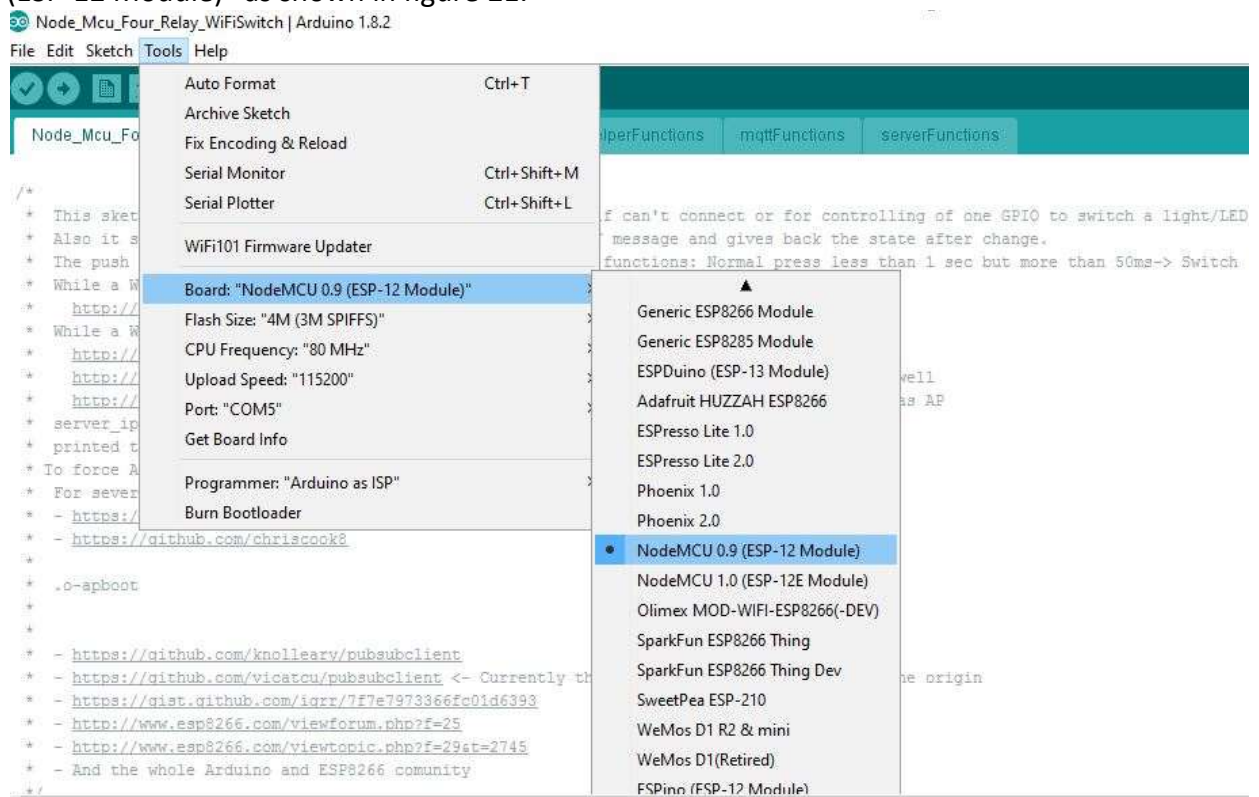

Figure 21: Board Selection
6. Click on Tools Tab, move mouse pointer on “Board: xxxxxxxxxxxx” and click on “NodeMCU0.9 (ESP-12 Module)” as shown in figure 21.